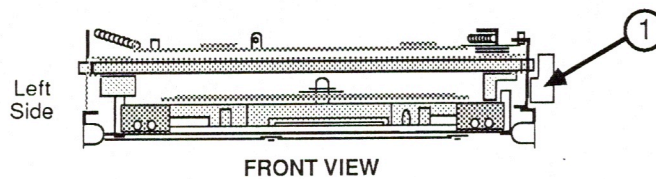

FIGURE 4
5. Place the disk drive mechanism on a flat surface, with the printed circuit board facing down and the diskette opening facing you (Figure 4).
6. Press the eject lever at the right side of the disk drive (Figure 4, #1).